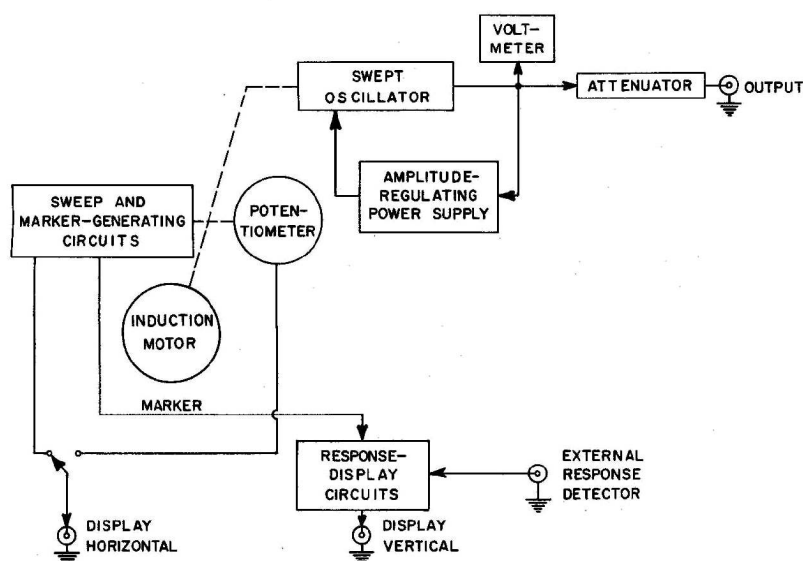

Figure 1-2. Block diagram of the Standard Sweep-Frequency Generator.
1.2.1 GENERAL. The Type 1025-A Standard Sweep-Frequency Generator meets the performance requirements of a standard-signal generator. A motor-driven variable air capacitor provides the swept-frequency output which is high in amplitude, free from harmonic distortion and spurious responses, and extremely stable. As shown in the block diagram, Figure 1-2, the Type 1025-A consists of an oscillator with voltmeter and attenuator, an amplitude-regulating power supply (automatic-amplitude-control circuit), an induction motor, the sweep and marker-generating circuits, and the response display circuits.